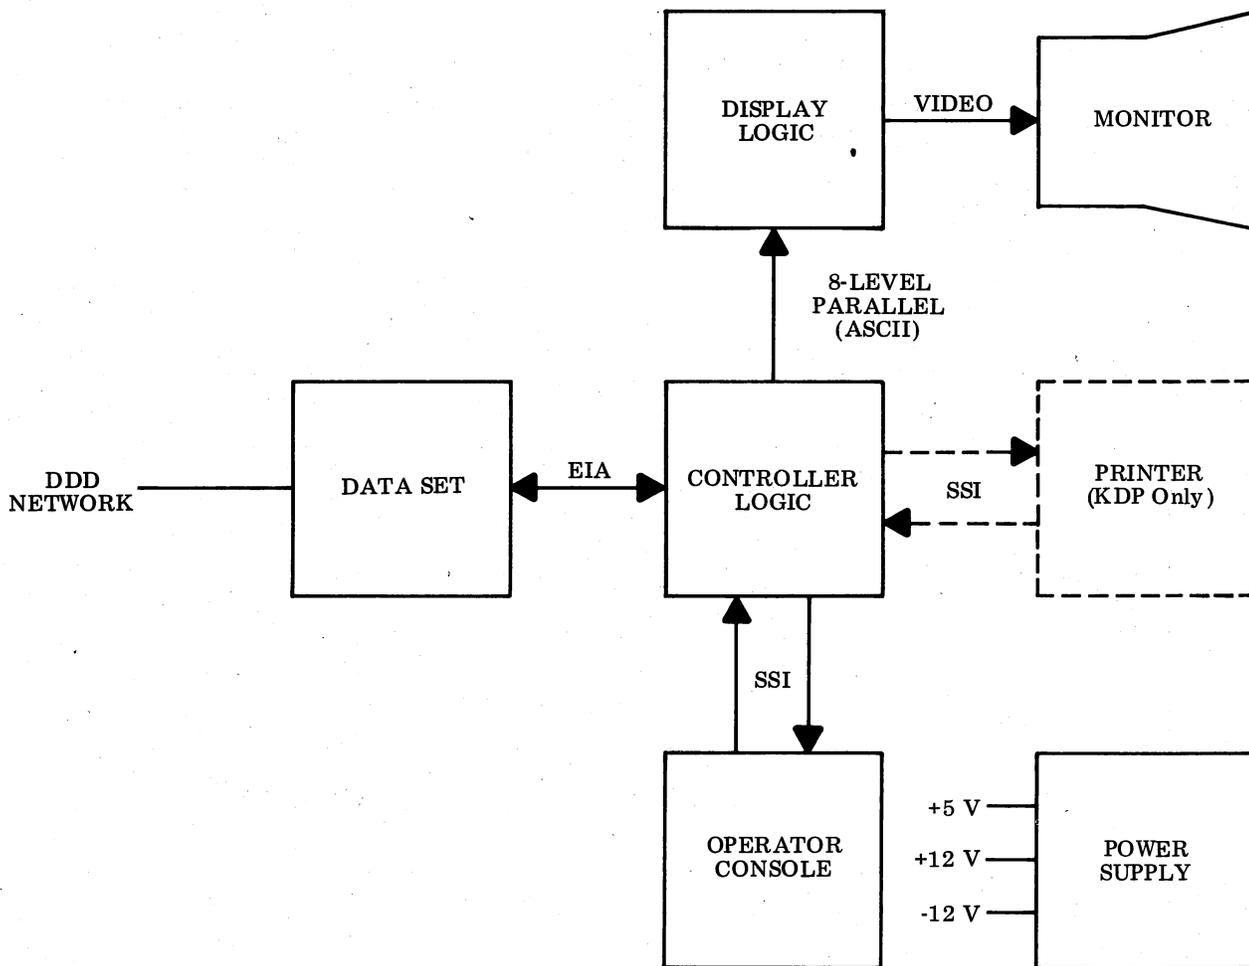
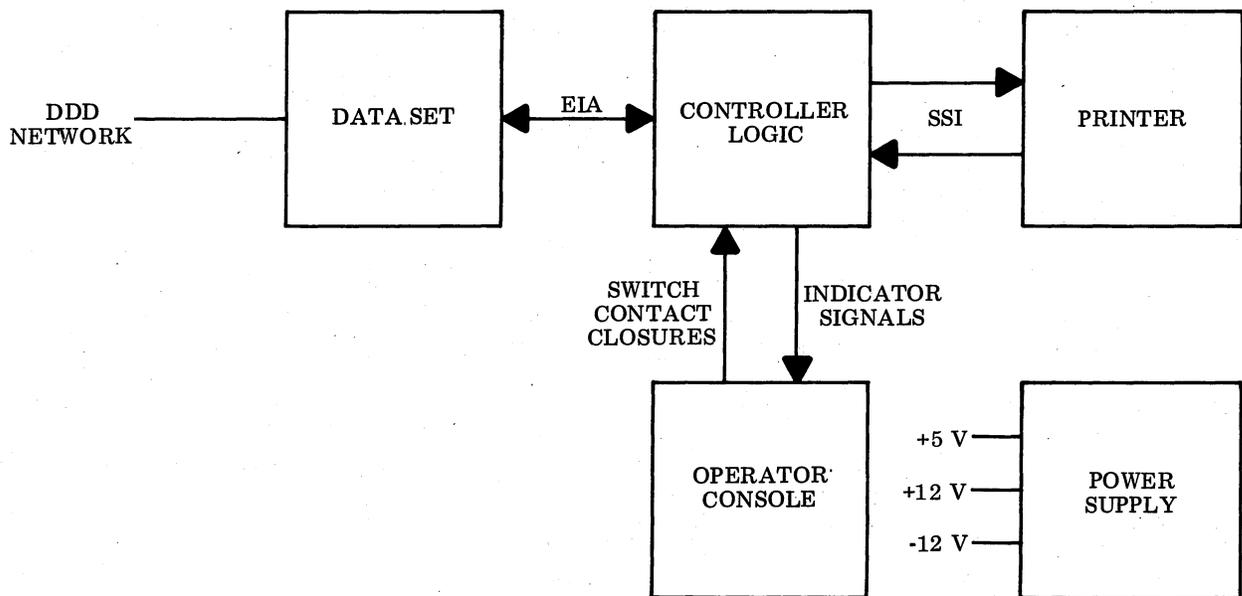

Figure 24 - Block Diagram of KD and KDP
Figure 25 - Block Diagram of ROP
4.01 The basic elements of the DATASPEED 40 Station are shown in block diagram form in Figures 24 and 25. Figure 24 is the simplified block diagram of the KD and KDP, and Figure 25 is the diagram of the ROP. The signals exchanged between these elements are shown in the diagrams.
4.03 The controller presents a standard EIA interface to the data set as indicated in Figures 24 and 25. Serial ASCII data and control